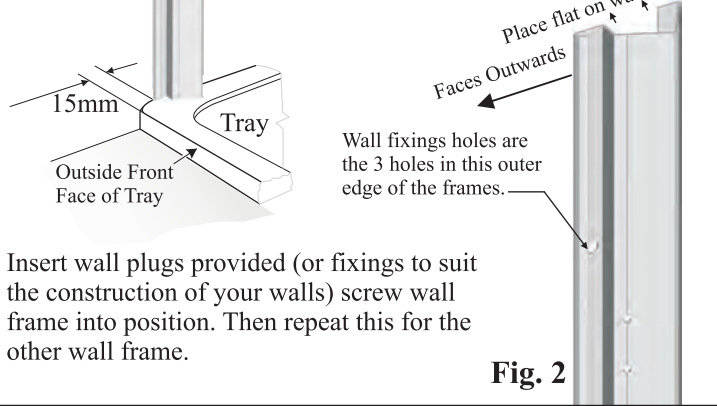

Fig. 2
- 3 FITTING THE WALL FRAME.** The wall frame is screwed to the wall at the junction of the door to the wall with 3 No8x30 screws and wall plugs (provided). Position the wall frame on tray 15mm from front face of tray (see Fig.2). Using a spirit level ensure it is vertical (not leaning in or out of the opening). Mark the position of the 3 holes on the wall through the wall frame. Remove wall frame & drill holes in wall using 7mm masonry drill bit.